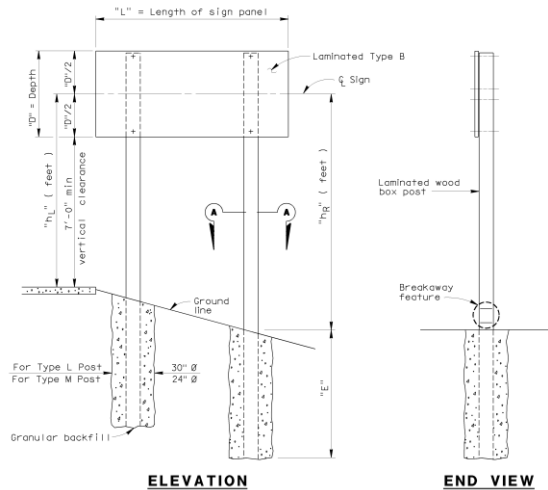

Figure 6. Explanation of Dimensions
- Determine the basic dimensions (see Figure 6)